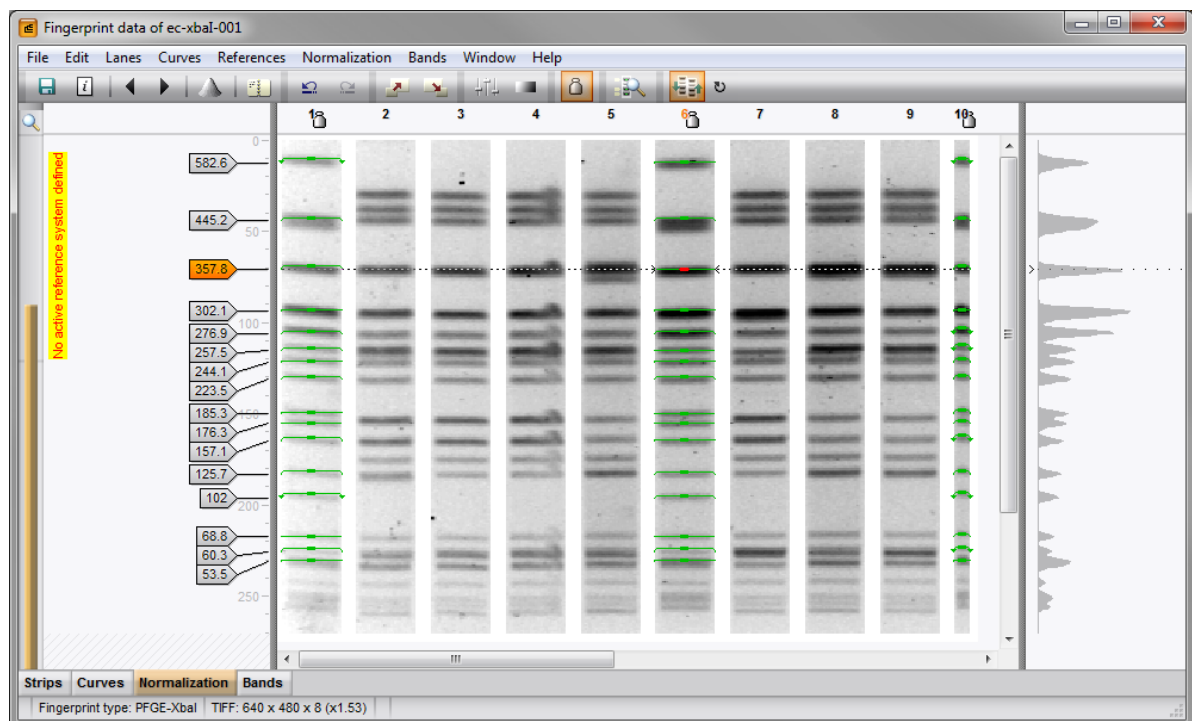

Figure 13: Reference positions assigned.
The reference system for experiment type **PFGE-XbaI** is now defined (see Figure 13).
40. Carefully inspect the assignments made (see Figure 13).
If a standard pattern is assigned to a fingerprint type, this standard pattern is shown in the *Normalization tab* of the *Fingerprint processing* window (see Figure 13) to make visual assignment of bands to the reference positions easier. The choice of a standard has no influence on the normalization process since it is only used as visual aid.